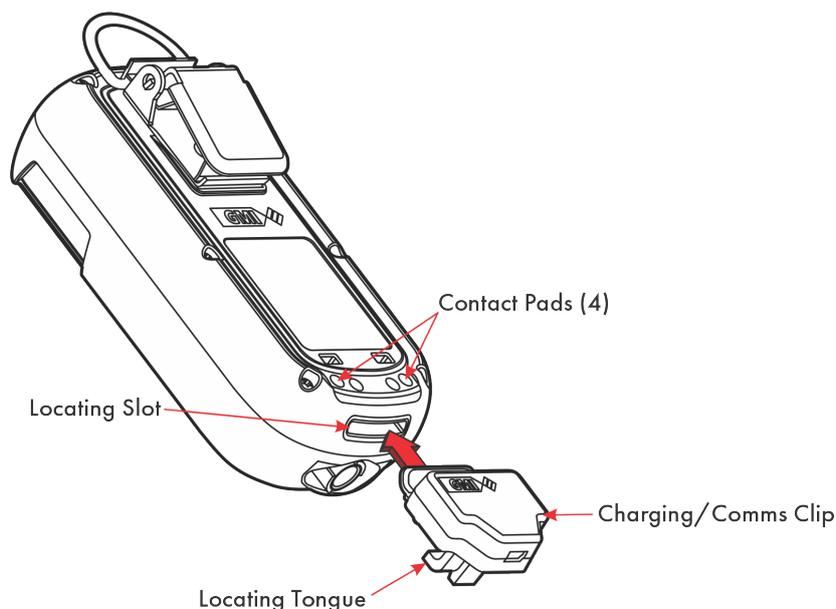

Figure 7-1: Charging/Comms Clip Connection
1. Connect the supplied charging/comms clip to the monitor. Ensure the locating tongue on the clip engages with the monitor locating slot and is firmly seated (refer to Figure 7-1: Charging/Comms Clip Connection).